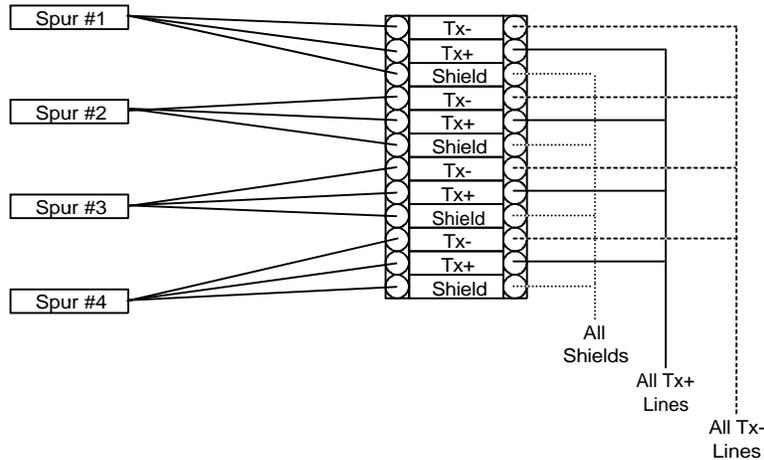

Figure 5 –Jumpering Like Wires Together
4. On the other side of the jumper block connect jumper wires between each of the Tx- connectors (see Figure 5).